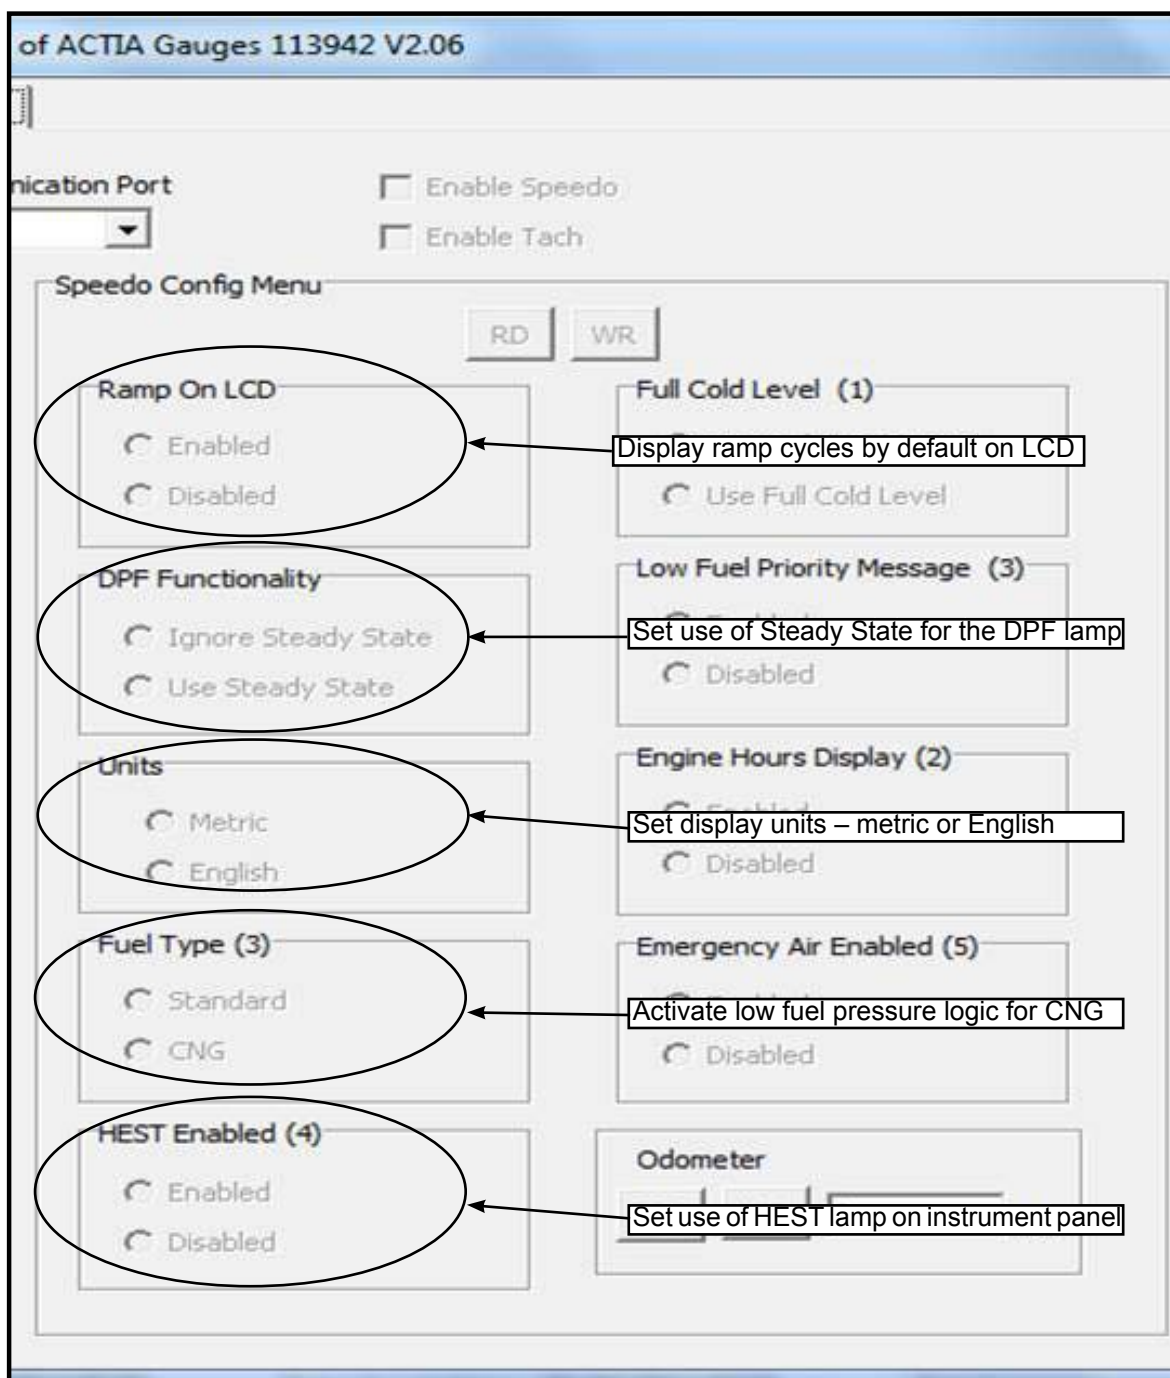

Figure 3 - Speedometer Parameters
2.2. Speedometer parameter overview (see Figure 3).